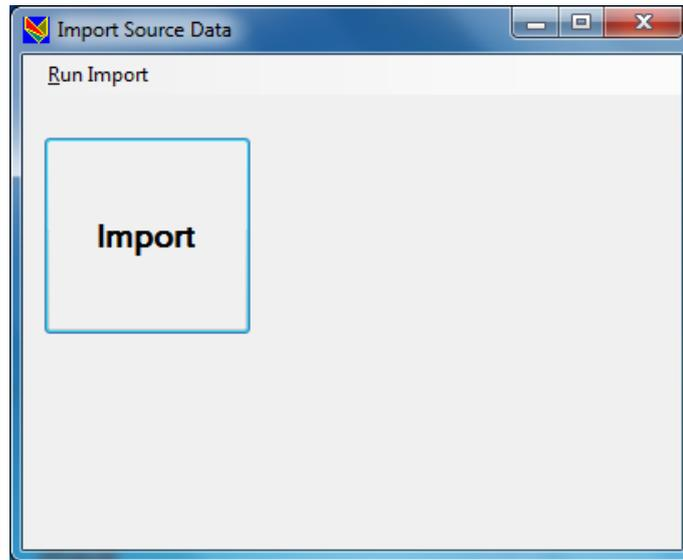

Figure 17 Launching data import wizard in the Importer utility
Step 2. In the Importer utility window, click **Run Import** in the main menu or click **Import** button in the main window (Figure 17).